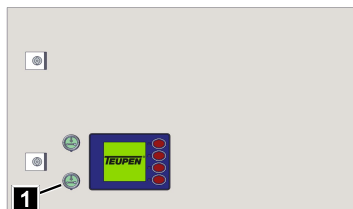

Fig. 114
7. Press and hold the [button] (Fig.114/1) until the profile package rests fully on the transport support and all movements have stopped.